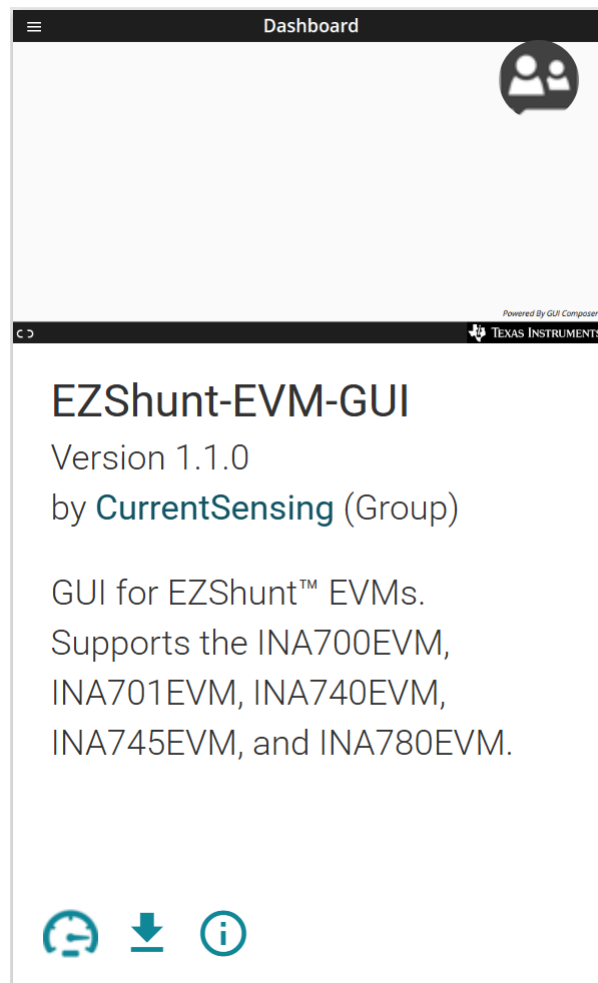

Figure 3-2. GUI Composer Application
3. Click the *GUI Composer* application to launch the GUI from the web browser (see Figure 3-2).
4. Optionally, to download the GUI for offline use, click the  icon in the *GUI Composer* application and follow the prompts (see Figure 3-2).